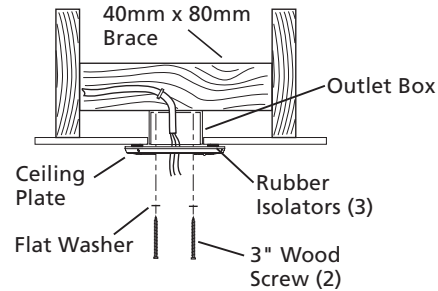

Figure 2c - Attaching Ceiling Plate to 40 mm x 80 mm Brace
4. Place a flat washer on each of the two 3" wood screws and pass the screws through two opposing oval slots in the ceiling plate, as shown in Figure 2c. You may substitute the 3" wood screws with the provided $1\ 1/2$ " wood screws for shorter depth installations. Be sure that enough of the screws enters the mounting surface to support the assembled fan.